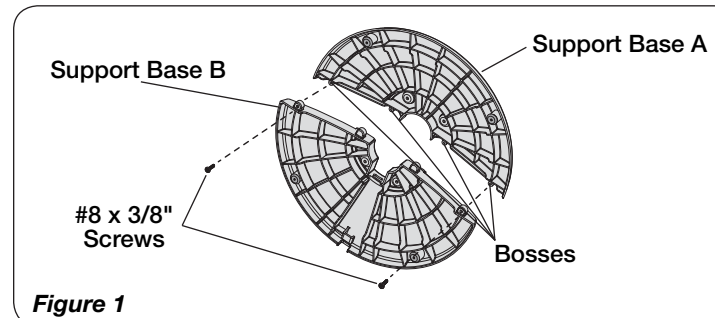
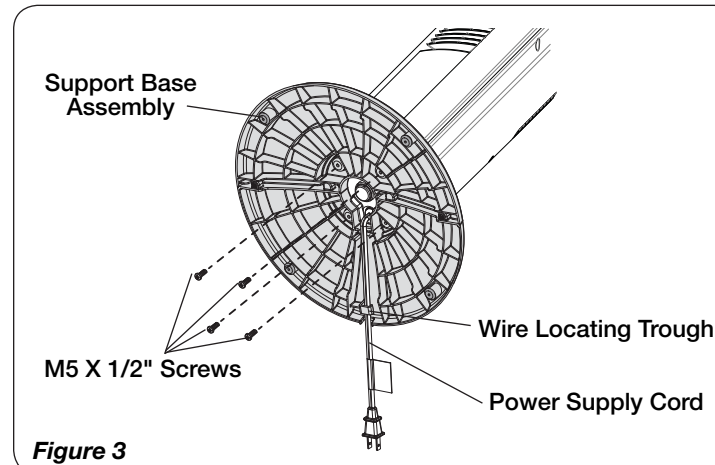

Figure 1
Figure 3
2. Assemble the Support Base Halves by interlocking the bosses on Support Base A into the Boss Holes on Support Base B. Secure (2) #8 X 3/8" Screws into the two outer holes in the bottom of the Base. (Figure 1)
4. Align the Support Base Assembly with the Motor Base, noting that the cord channel on the bottom of the Support Base Assembly should be towards the back of the Fan. Attach the Support Base Assembly to the Motor Base with 1/2" long M5 screws. Make certain to align the Key on the Support Base Assembly with the Locating Notch on the Motor Base. (Figure 1) Gently pull any excess slack of the Power Supply Cord and place it in the Wire Locating Trough. (Figure 3)